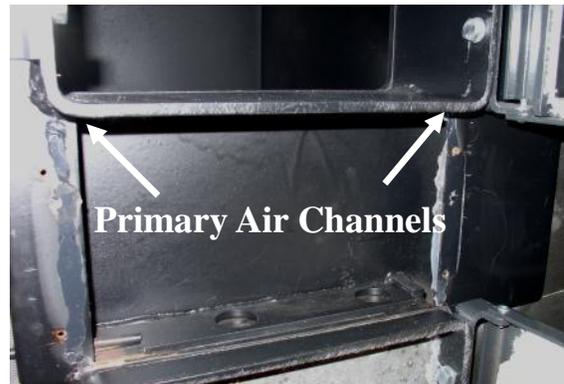

Fig. 4.11 Cover Removed
2. The air channels (Fig. 4.11) can then be cleaned with a brush or piece of wire.